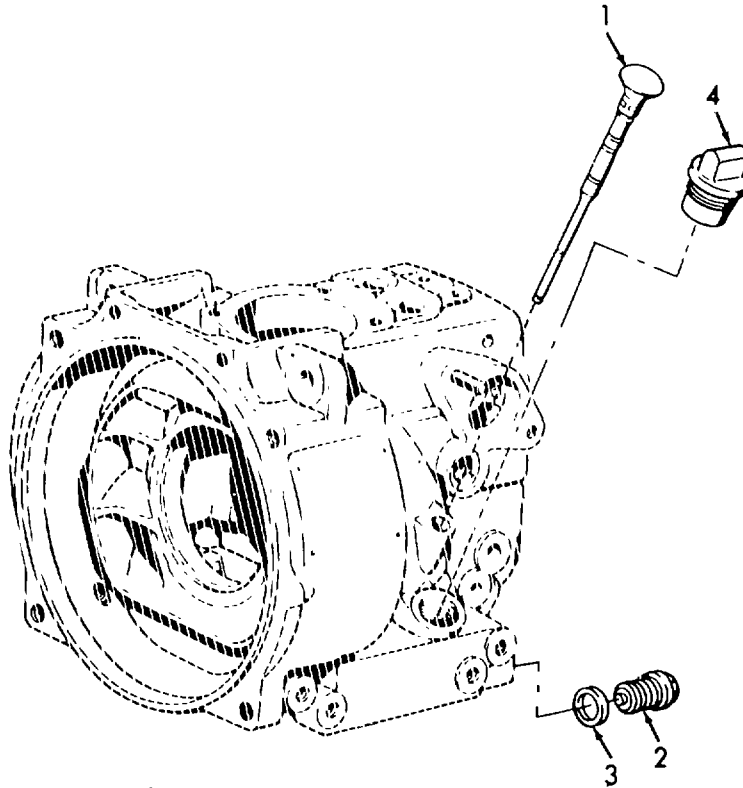

Figure 4-1. Engine Lubrication.
a. Engine. (Refer to figure 4-1).
- (1) Every 150 hours of operation change engine oil. Use Oil, Engine, MIL-L-2104D (item 6, appendix E).
- (a) Remove engine oil drain plug (2) and allow oil to drain into a suitable container. Install oil drain plug (2) and new washer (3).
- (b) Remove engine oil cap (4) and fill engine sump with MIL-L-2104D to "Top Mark" on dipstick (1). Crankcase capacity is 0.26 gallon (1 liter).